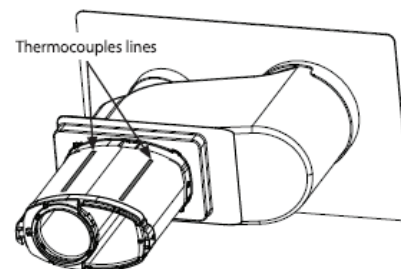

Figure 2: Thermocouple Lines
5. Adhere thermocouples to the hose equally spaced along the line shown in figure 2 across the length of the hose. Four thermocouples per line. Note, the duct pictured in figure 2 is for instructional purposes only. The actual duct will look different when extended.